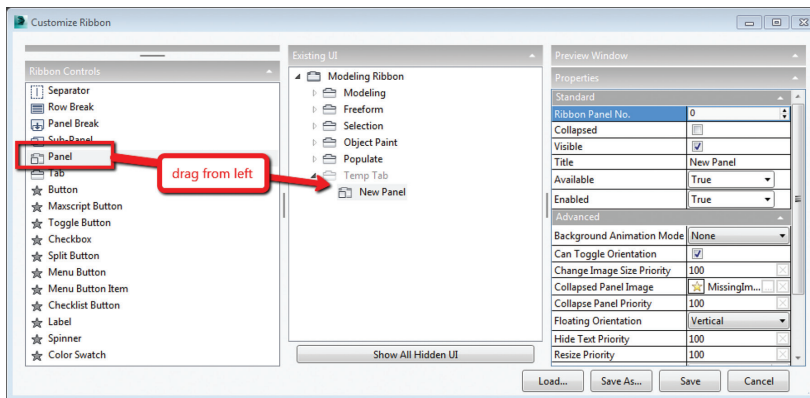

Figure 19: Adding a panel to the tab
- 3) Using the same drag method, add a new "panel" to the temp tab (Figure 19).